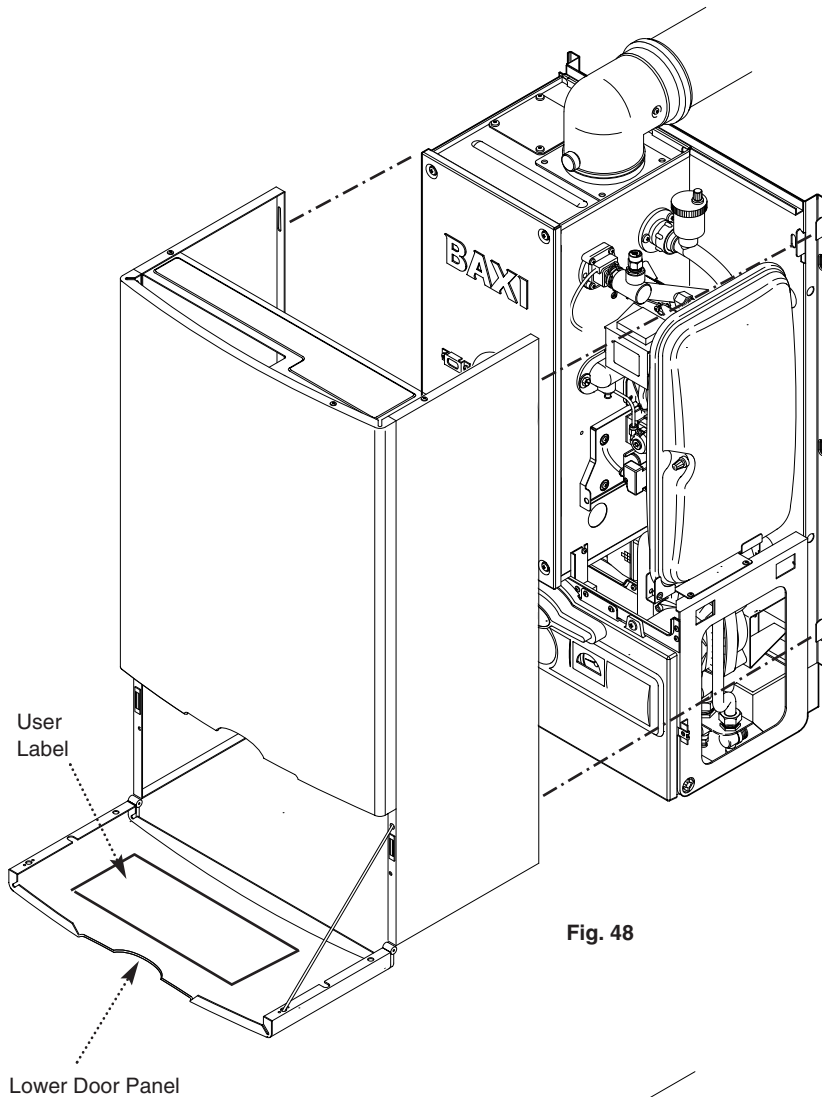

Fig. 48
1. Fit the outercase to the appliance ensuring that the four slots in the side flanges align with the hooks on the chassis (Fig. 48).
7. Set the User preferences. See User Label on lower door panel (Fig. 48) or user's operating instructions (set CH/DHW temperatures).
NOTE: The information shown on the display is explained on the label on the inside of the lower door panel (see Fig. 48).